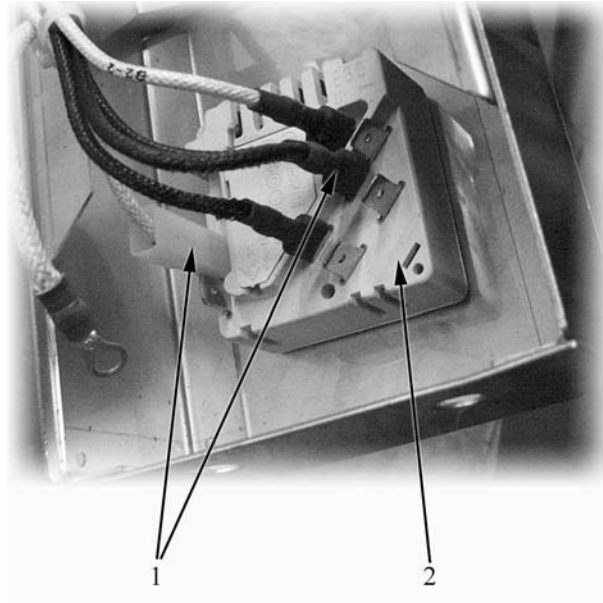

Fig. 18
- disconnect the electrical connections (item 1 in Fig. 18);
- unscrew the front fixing screws of the power regulator and remove it (item 2 in Fig. 18);